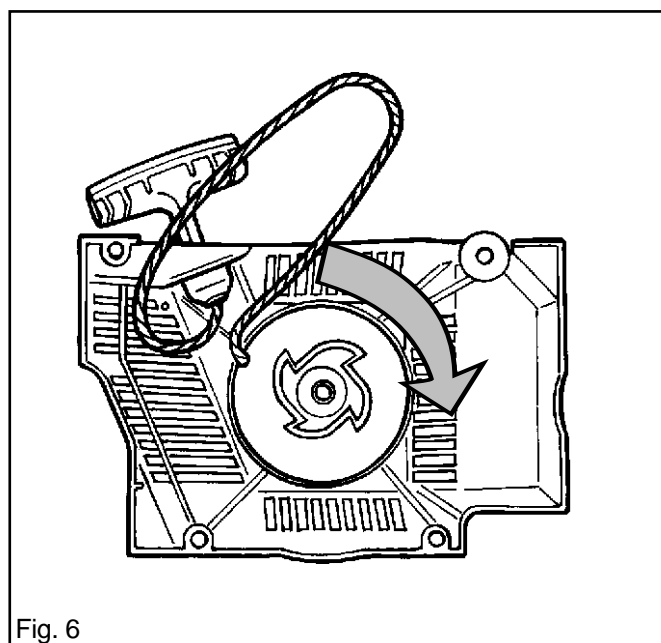

Fig. 6
7. Wind the cord onto the pulley and rotate the pulley clockwise until the cord is correctly tensioned. See below and fig. 6.